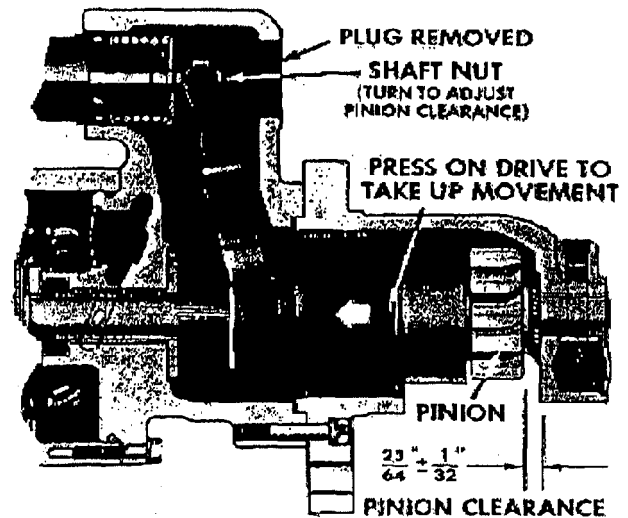

Figure 12—Measuring pinion clearance
4. Measure the distance between drive and housing (Fig. 12).
5. Adjust clearance by removing plug and turning shaft nut (Fig. 12). Although typical specifications are shown, always refer to 1Mj-188 for specifications applying to specific models.